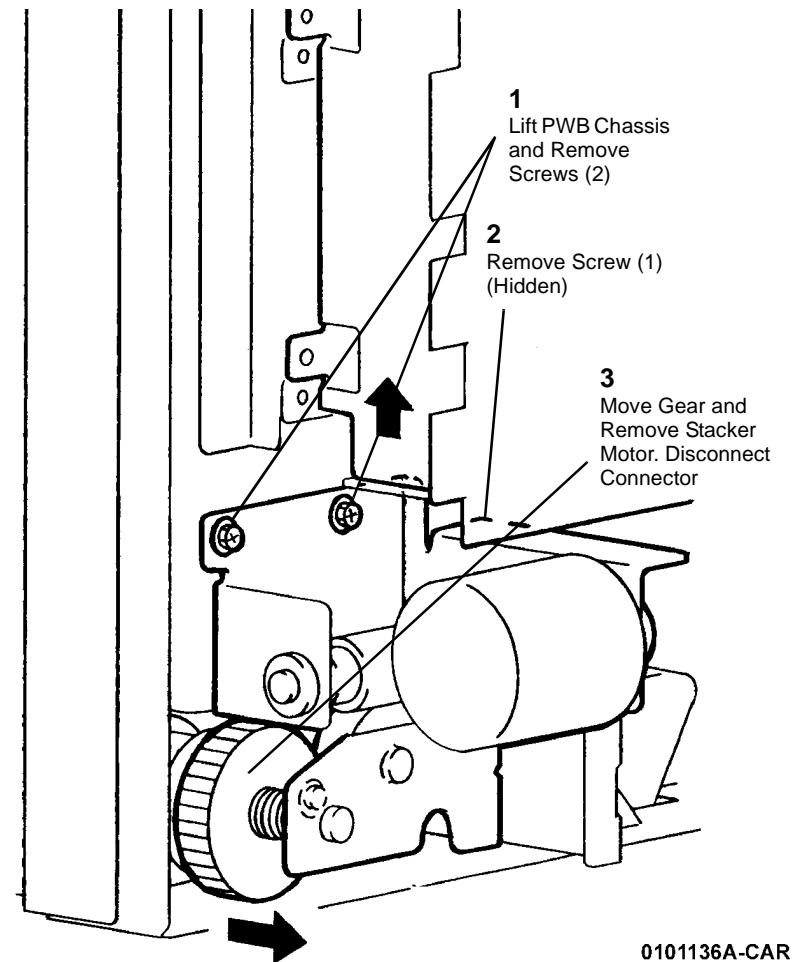

Figure 2 Removing Stacker Motor Assembly
4. Remove the Stacker Motor Assembly (Figure 2).